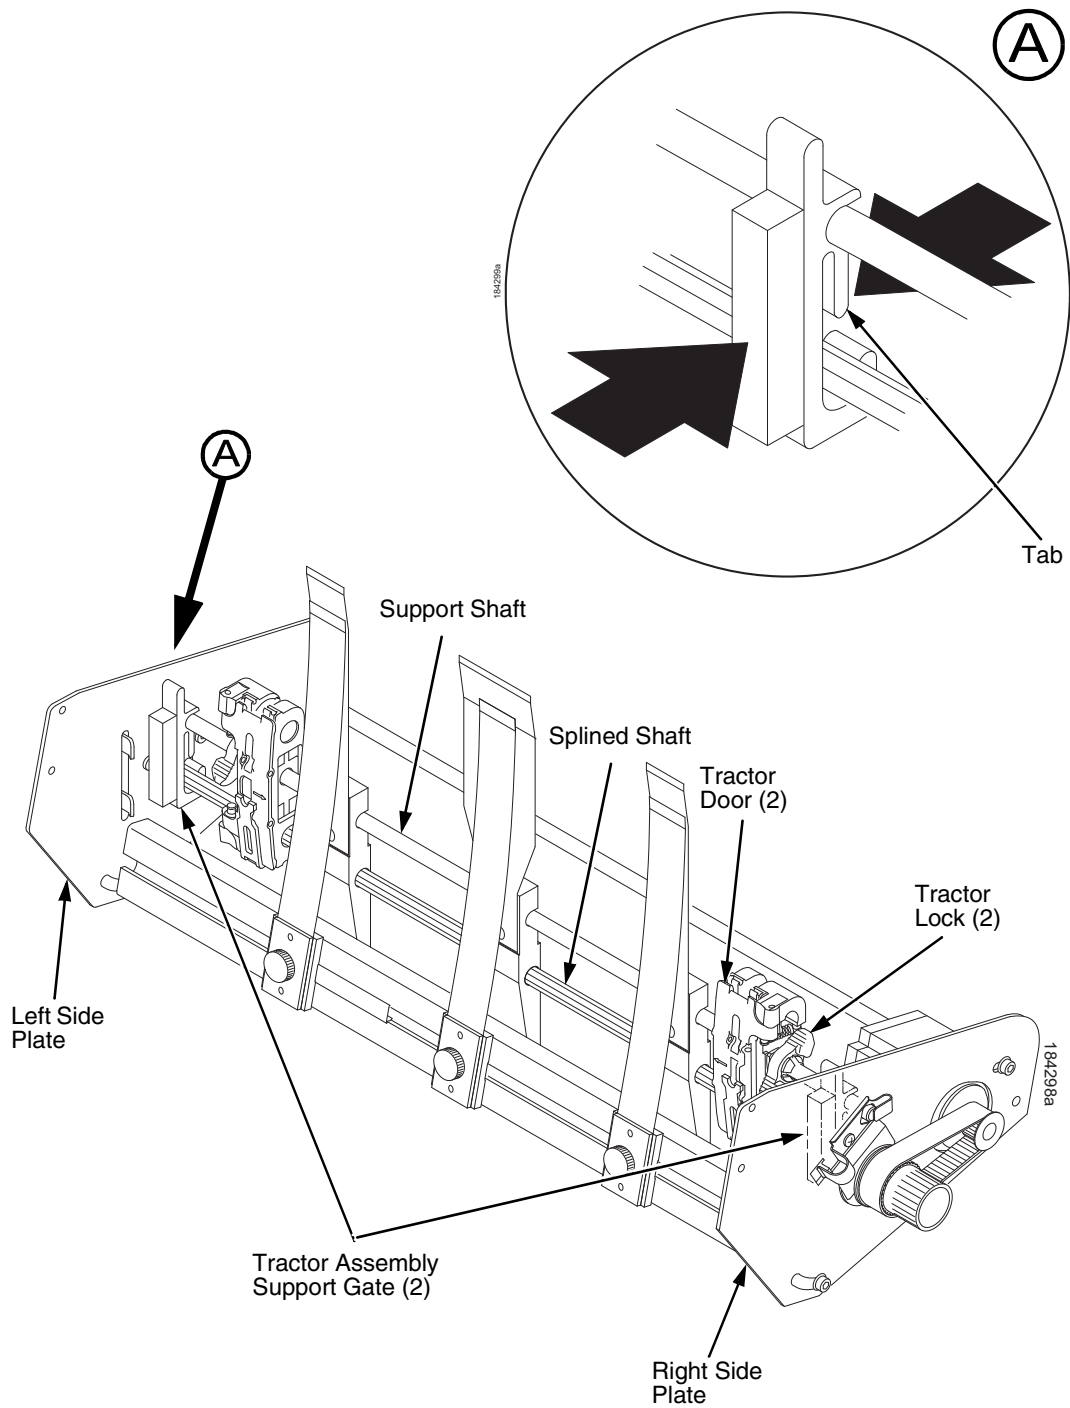

Figure 122. Removing and Installing the Tractor Assembly Support Gate
4. Squeeze the tab on the left tractor assembly support gate and remove the support gate from the splined shaft and support shaft. (See page 530, Figure 122.)